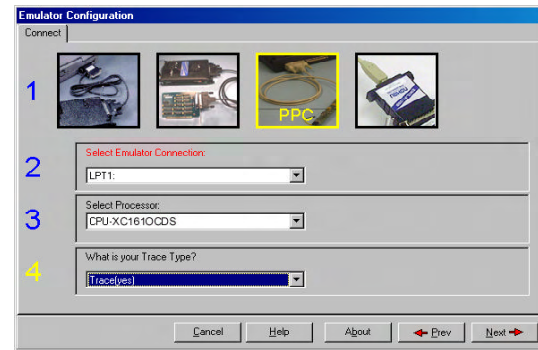

Figure 4 Connect
- 6) The first step is to select the interface type. For the EMUL166-XC16X-OCDS/PC emulator the PPC is selected. This is shown in Figure 4. Click the next button to proceed.